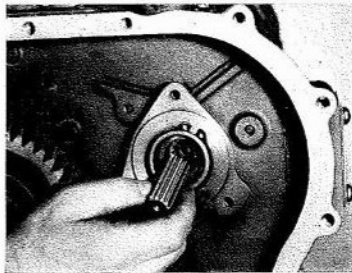

Fig. M.5.
3. Remove the driving gear adaptor leaving the splined quill shaft in the fuel pump (See Fig. M.1). A circlip which retains the fuel injection pump quill shaft in position is located in the front of the adaptor, Fig. M.5 shows the removal of the quill shaft.